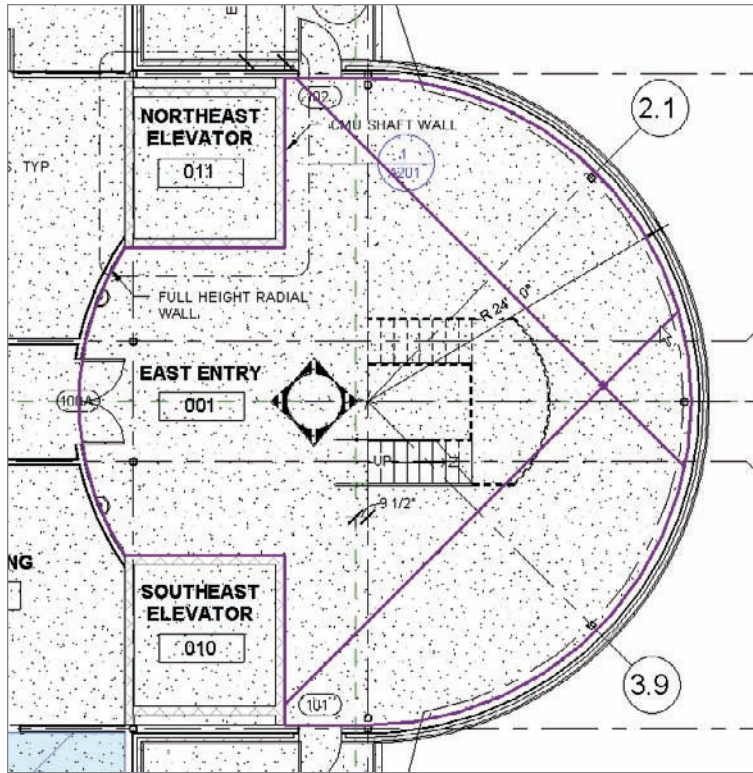

FIGURE 15.12 Selecting the east entry room
1. Zoom in on the east entry area and select the room, as shown in Figure 15.12.